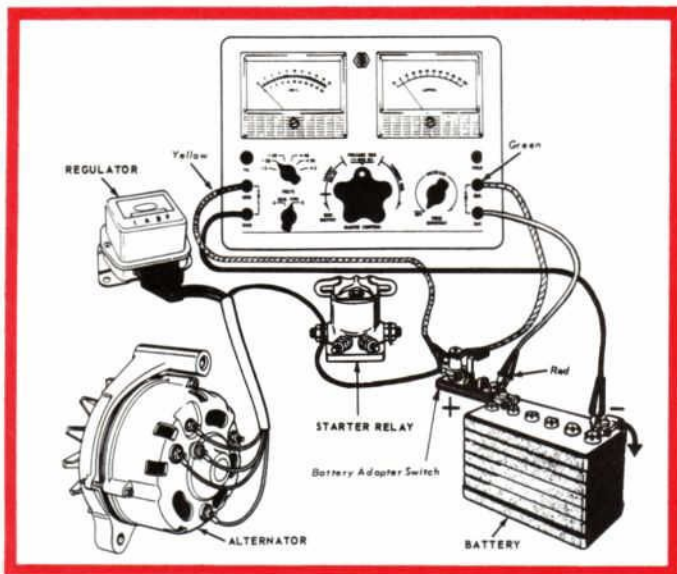

Figure 6—Voltage Limiter Test Connections
1. Disconnect both battery cables and install a battery post adapter switch to the positive post. See Figure 6.